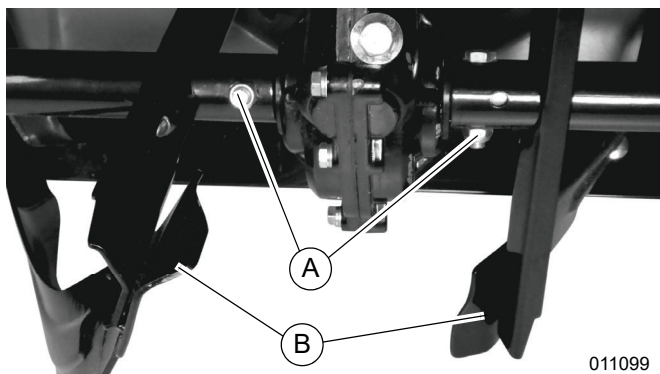

Figure 4-4. Checking and Replacing Auger Shear Bolts
1. See **Figure 4-4**. Remove shear bolts and locknuts (A) using two 13mm wrenches.